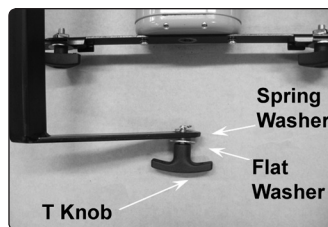
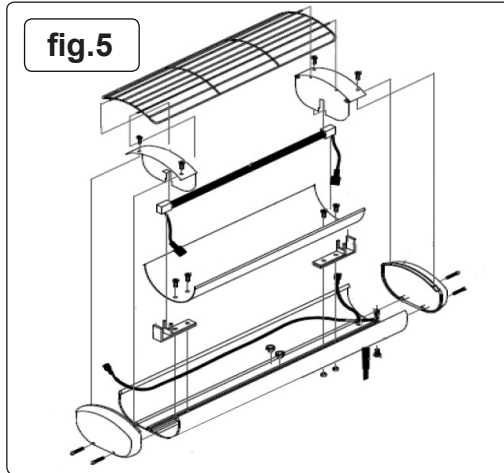

fig.3
fig.4
- 4.2.3. Fit the Mounting Arm to central cassette using the T-Knob, flat washer and star washer. Make sure that the star washer fits between the cassette strap assembly and the mounting arm (fig.3). The assembled cassette head should be as shown in fig.4